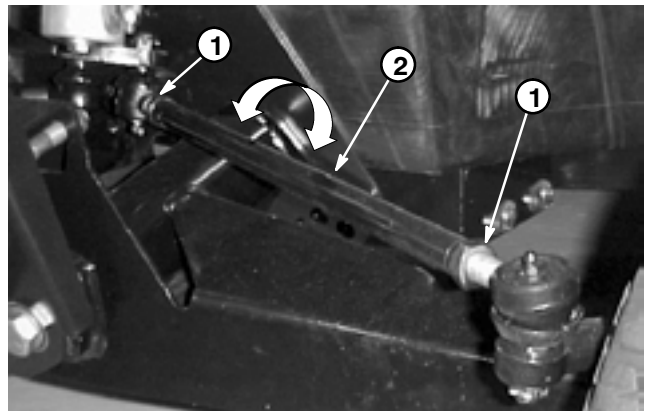

Figure 8
- A. Loosen jam nuts at both ends of tie rods (Fig. 8).